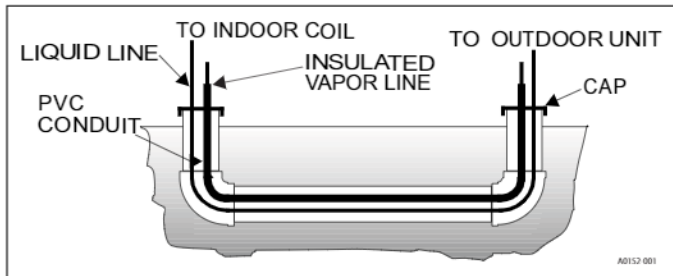

FIGURE 3: Underground Installation
6. Use PVC piping as a conduit for all underground installations as shown in Figure 3. Keep buried lines as short as possible to minimize the build up of liquid refrigerant in the vapor line during long periods of shutdown.